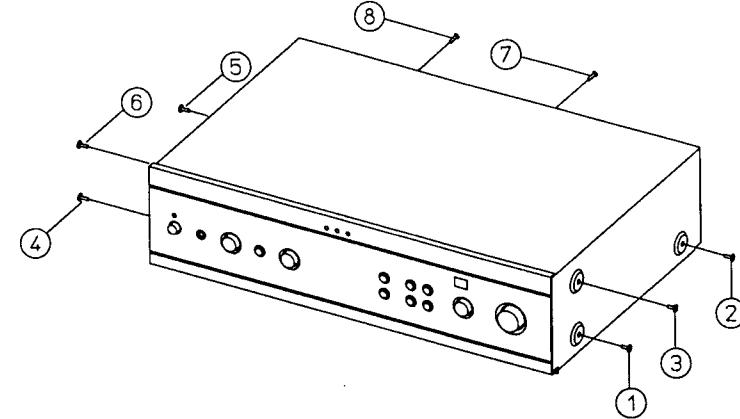

Figure No. 1.
1. Remove machine screws M4.0 x 6.0 (1 to 6) from the side panels. Remove tapping screw 3.0 x 8.0 (7 to 8) from the back panel. Refer to **Figure No. 1**.